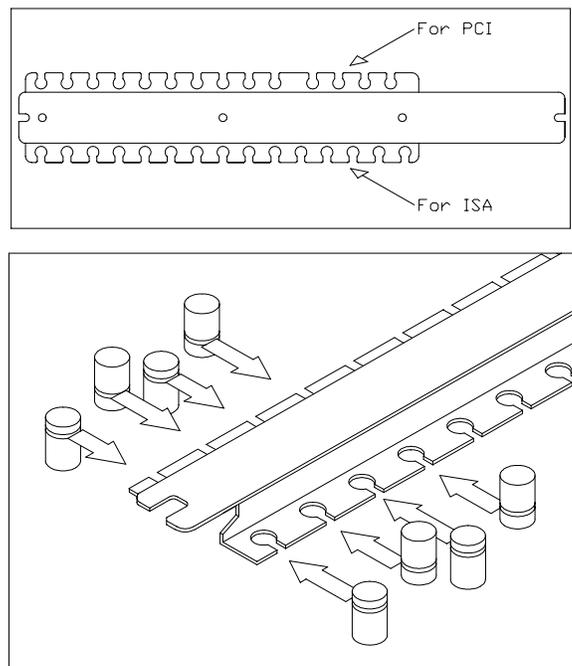

Figure 2-6: Inserting the rubber buffers
2. Insert the rubber buffers (provided in your kit) into the hold-down clamp. These buffers offer the plug-in cards two levels of protection against vibration. See Figure 2-6 below: